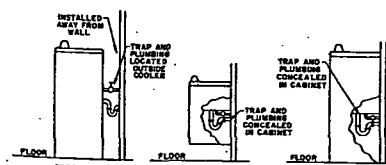

Fig. 9... Types of Installation for Drinking Water Coolers
3. Type of Installation (see Fig. 9).